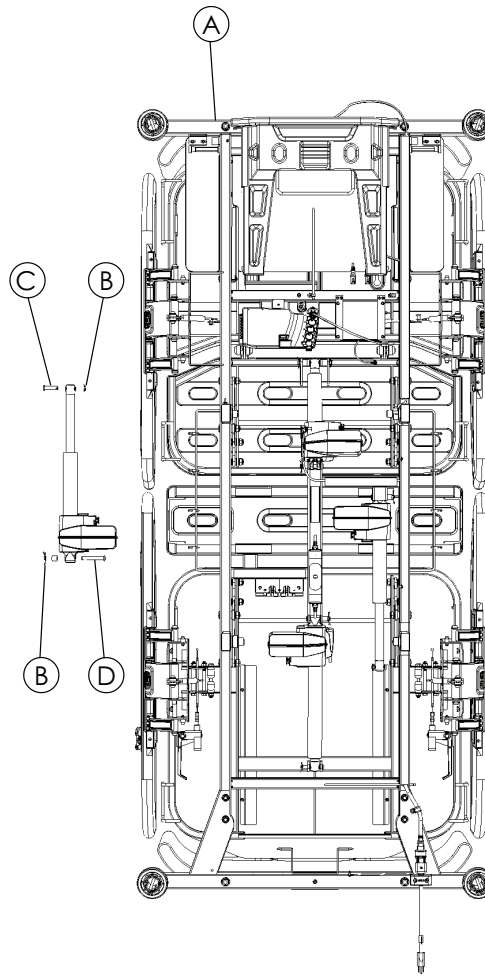

Figure 6 – Foot end lift actuator
2. Support the foot end litter cross brace (A) to support the foot end litter (Figure 6).
6. Using needle nose pliers, remove and discard the rue ring cotter pins (B) from each clevis pin (Figure 6).
7. Using one hand, support the foot end lift actuator and remove and discard the foot end clevis pin (C) then allow the foot end lift actuator to pivot down (Figure 6).
8. Using one hand, support the foot end lift actuator and remove and discard the head end clevis pin (D) and spacer (Figure 6).